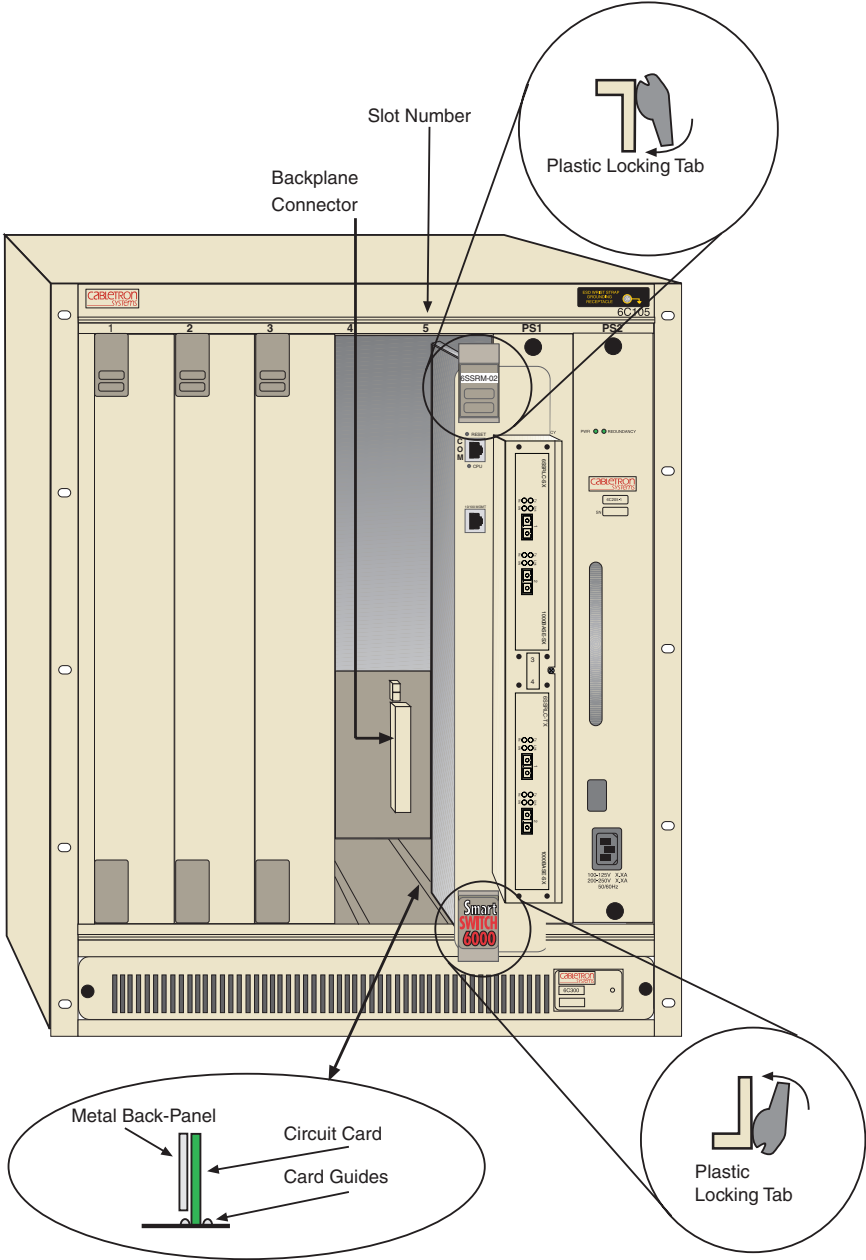

Figure 2-1 Installing an Interface Module
The 6SSRM-02 can be installed in any of the slots that are available. To install a module, refer to Figure 2-1 and proceed as follows:
Ensure that the top plastic locking tab lines up with the desired slot number located on the front panel of the chassis. Refer to Figure 2-1.
6. Locate the slot guides that line up with the number of the slot in which the module will be installed. Install the module in the chassis by aligning the module circuit card between the upper and lower metal rail guides of the desired slot, sliding it into the chassis, and locking down the top and bottom plastic locking tabs, as shown in Figure 2-1. Take care that the module slides in straight and properly engages the backplane connectors.